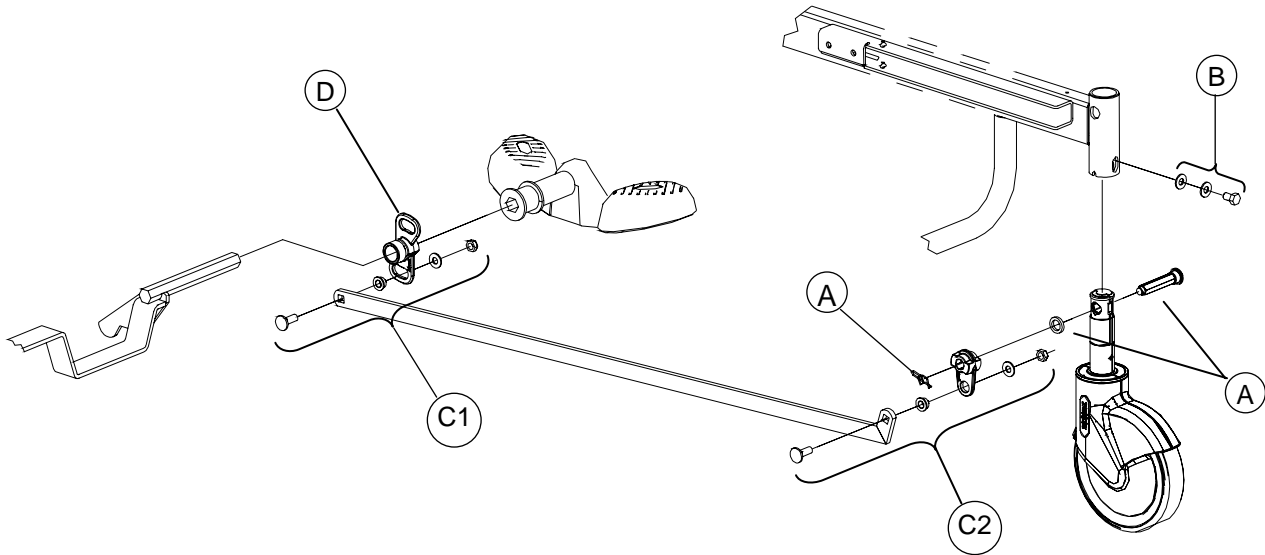

Figure 4.4B
5. Using a 1/2" socket wrench, remove the two nuts/shoulder spacers/washers/bolts (C1, fig. 4.4B, page 50) holding the brake rods to the locking levers on both sides of the mechanism. If the optional four-wheel brake system is present on the bed, also remove the fasteners holding the two other brake rods to the locking levers.
6. Using a 1/2" socket wrench, remove the two bolts (A) holding each side of the steer wheel mechanism to the base. Keep the molded spacers (B). Remove the assembly.
8. Keep the two locking levers (D, fig. 4.4B, page 50).
5. Using a 1/2" socket wrench, remove the nut/shoulder spacer/washer/bolt (C1, fig. 4.4B, page 50) holding the brake rod to the locking lever on the right side of the steer wheel mechanism. If the optional four-wheel brake system is present on the bed, also remove the fasteners holding the other brake rod to the locking lever.
6. Using a 1/2" socket wrench, remove the two bolts (A) holding the right steer wheel support to the base. Lay the support down and keep the molded spacer (B).
7. Using two 1/2" wrenches, remove the nut/shoulder spacers/bolt (D) holding the right torsion lever (E) to the lower part of the right counter lever.
8. Using a 1/2" wrench and a 3/16" Allen key, remove the two nuts/Allen screws (F) holding the torsion levers (E) to both ends of the torque shaft (G).